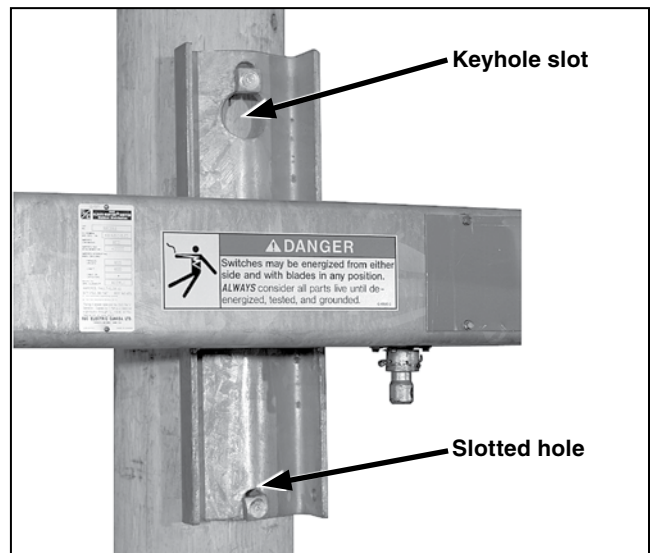

Figure 17. Guide the switch.
STEP 14. Guide the switch so the through-bolt heads enter into the keyhole slot and open slotted hole in the switch base. See Figure 17.